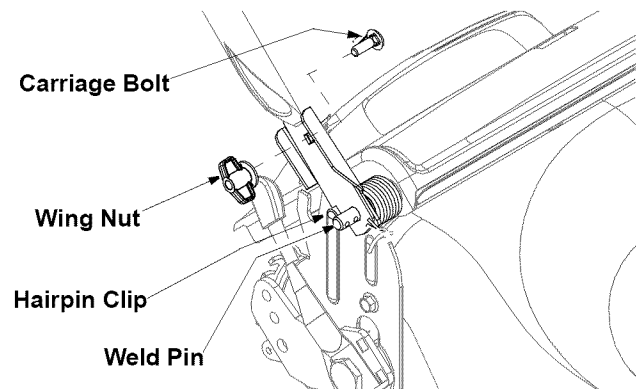

Figure 4
- Locate hairpin clip in one hole on the weld pin on each side of the lower handle. See Figure 4.
- Remove hairpin clip from this hole. Using a pair of pliers, insert the hairpin clip into the other hole on the weld pin. See Figure 4. Repeat on other side.
- Refer to the hardware pack in Figure 2. Insert the carriage bolt from the hardware pack into the upper hole on the handle mounting bracket. See Figure 4. Secure with one plastic wing nut, also included in the hardware pack. Repeat on the other side with remaining items from the hardware pack.